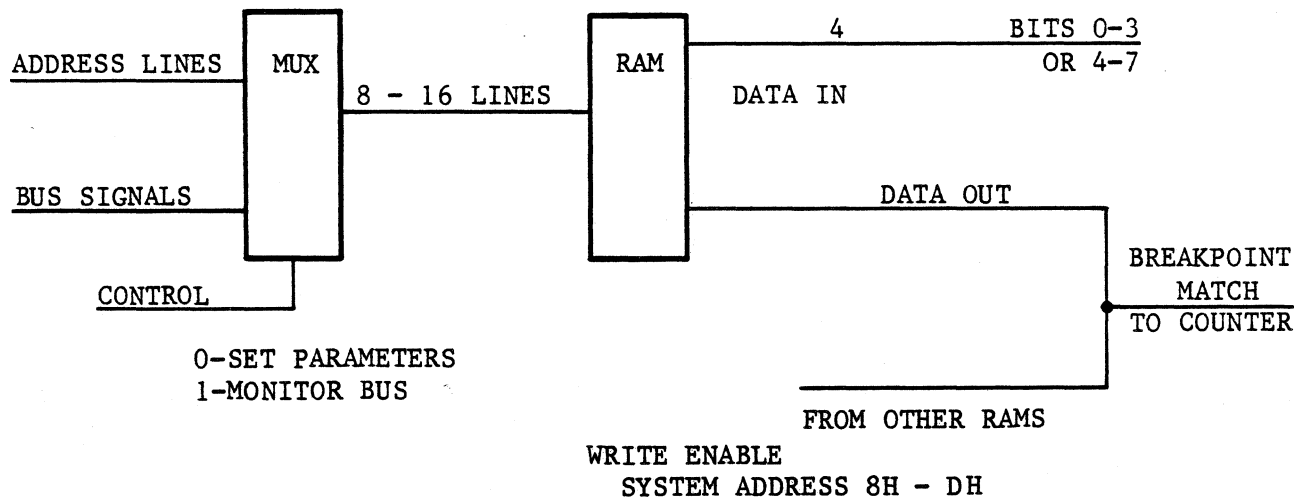

Figure 4-8. Address And Data Lines
Figure 4-8, Address And Data Lines shows how the address and data lines are used to set the breakpoint in RAM. Shown below are the addresses used, and what they represent for each port.
There are 49 parameters on which the breakpoint is set. Forty-eight (48) of these are defined in the breakpoint RAMs. The delay count is set in the counter. See Figure 4-8, Address And Data Lines. When an Emulator bus cycle occurs, the RAMs are directly addressed by the lines they are to monitor. When the lines equal the breakpoint parameters, a zero is output from the RAM. When all 48 lines match, the breakpoint counter is incremented. To set the RAMs for a breakpoint, the RAMs are set to zero at the address equal to the desired breakpoint parameters for each RAM.